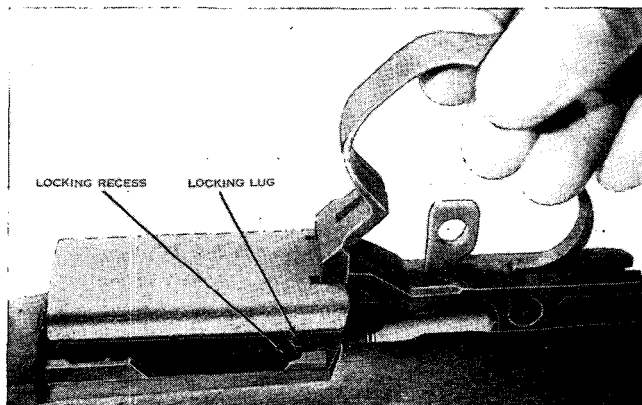

Figure 41. Replacing the trigger housing group.
b. Unlatch and open the trigger guard; keeping the base of the trigger housing level, place it straight down into the receiver, making sure that the locking lugs on the trigger guard enter the recesses in the receiver (fig. 41). Close and latch the trigger guard.